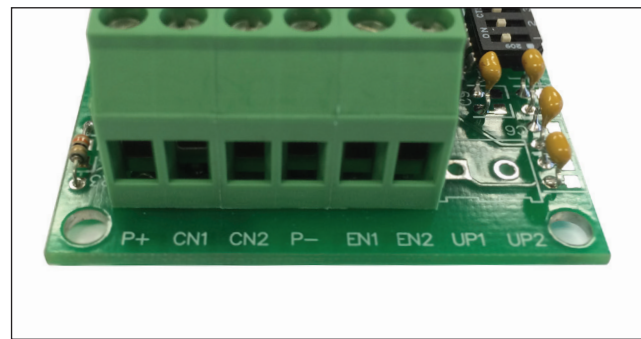
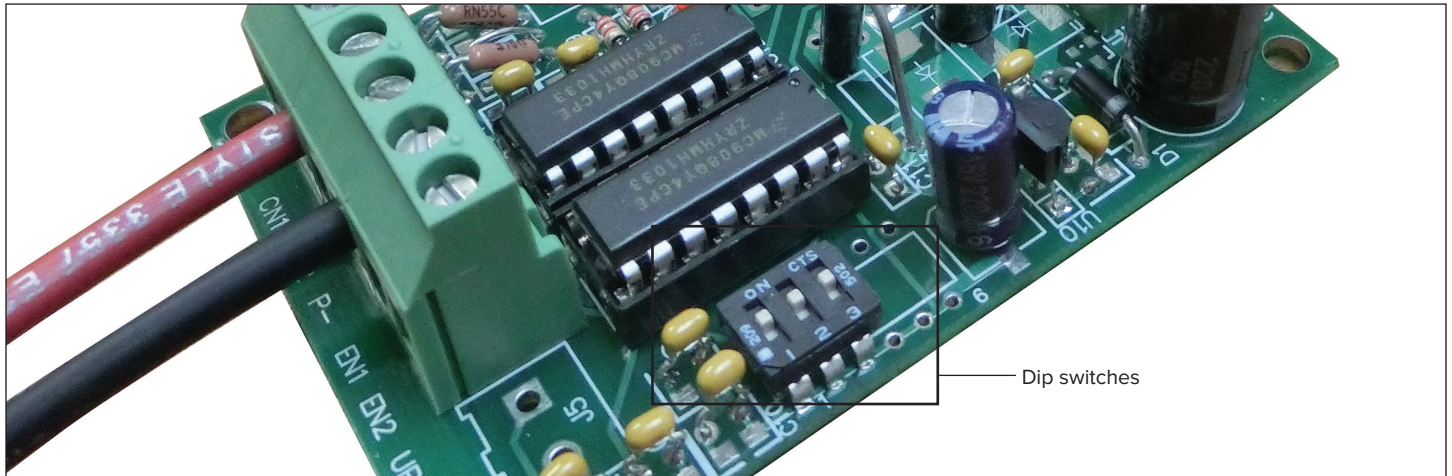

Figure 7. Setpoint Terminal Board
Figure 8. Location of Dip Switches
- To use independent setpoint signal for each: Connect separate setpoint signal to CN2 and P-. This can also be done with a potentiometer wiper to CN2 and P+/P- per note above (See Figure 7).
- The dip switches are used to set up the PWM frequency to the valve coil (See Figure 7). Sierra has done extensive testing and recommends the settings below (See Figure 8). If the VC-2 is purchased as a package with SmartVO and application conditions are provided, Sierra will set up the optimal frequency for the application at the factory. In general, 1.5 Hz is recommended.